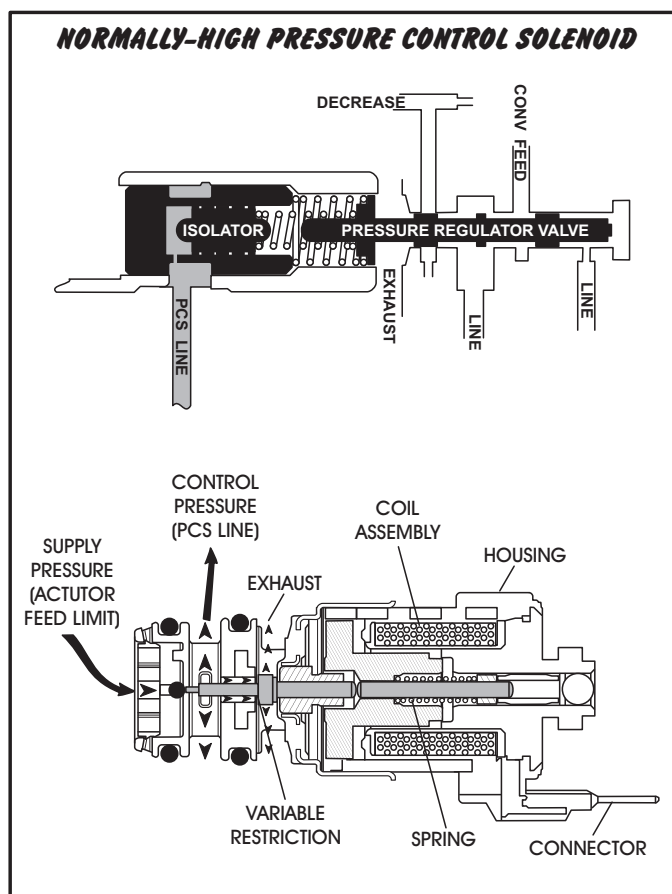

Figure 11
The line pressure (PC) solenoid is a precision electronic pressure regulator that controls line pressure based on current flow through its coil windings. The TCM varies current to the "***normally-high***" amperage line pressure control (PC) solenoid from approximately 0.1 amp (maximum line pressure), to 1.0 amps (minimum line pressure). As current flow is increased, the magnetic field produced by the coil moves the solenoid's variable restriction further away from the exhaust port, as shown in Figure 11. Opening the exhaust port decreases the control pressure, which is routed to the isolator (boost) valve, as shown in Figure 11, which ultimately decreases line pressure. As the current flow is decreased, the reduced magnetic field allows the spring force to move the variable restriction to the left, as shown in Figure 11, closer to the exhaust port, increasing control pressure from the solenoid, which ultimately increases line pressure.